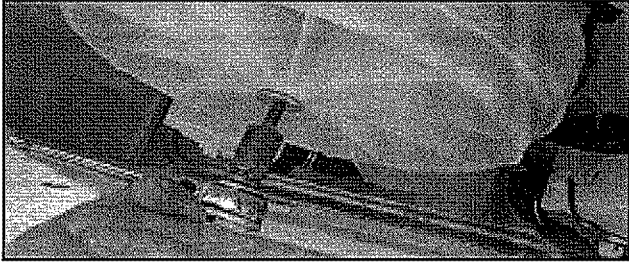

FIGURE 4
8. Using a 1/4" Hex Driver, remove rotor bolt and rotor. See Figure 4.